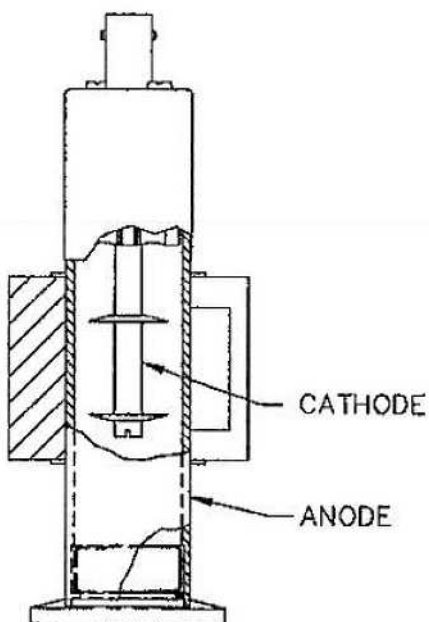

Figure 3: Newer Style 525 Cleaning or Replacing Cathode
- For 524 or new style 525 unscrew cathode with a flat blade screwdriver (Figure 3: Newer Style 525 Cleaning or Replacing Cathode).
- For 524 or new style 525 (Figure 3: Newer Style 525 Cleaning or Replacing Cathode):